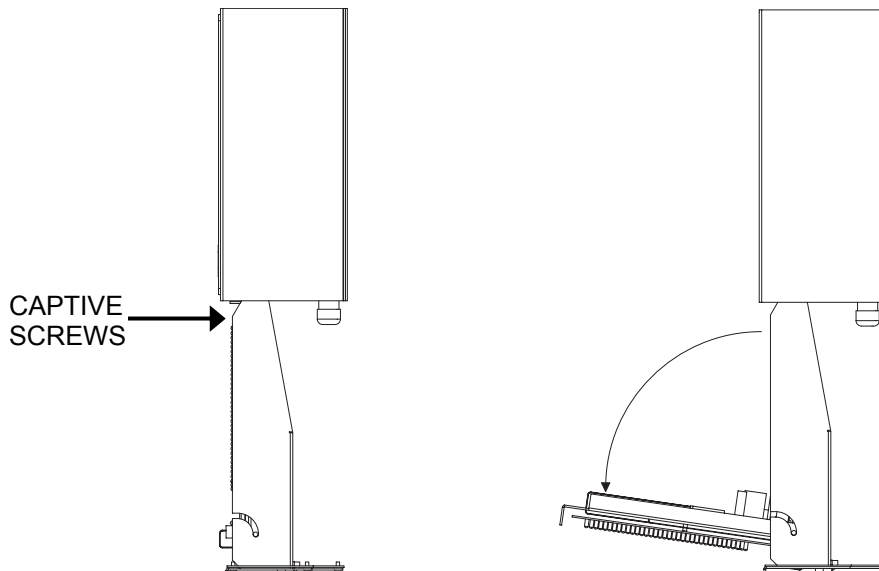

Fig. 6: Side View
1. Remove the two (2) captive screws holding the Electronics Plate to the Electronics Carriage.
2. Slowly, allow the Electronics Plate to swing down, making access easier for wiring and service (As seen in Fig. 6).